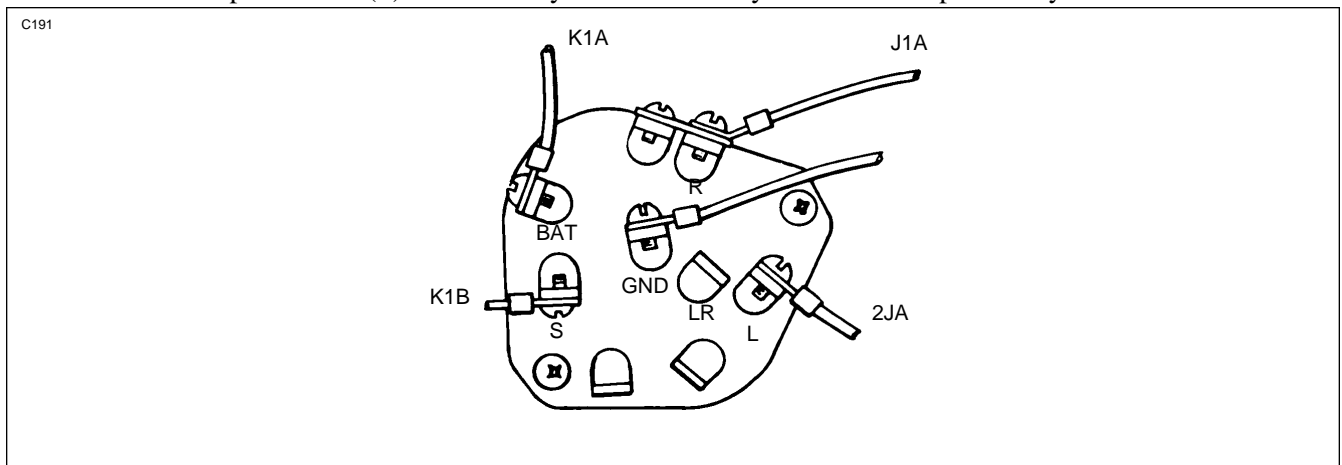

Figure 11-27 Ignition Switch Wire Positions
11 88. INSTALLATION OF IGNITION SWITCH (Refer to Figure 11-27.).
- a. Attach wires to switch as shown in Figure 11-27.